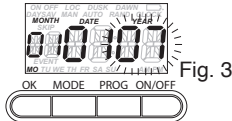

Fig. 3
4. Turn the knob to set the desired year and press OK. (Fig. 3)
5. Turn the knob to change the flashing 01 to the required new week (01-02-03-04-L) for the autumn adjustment, then press OK. LOC shows at top of display. (Fig. 3)